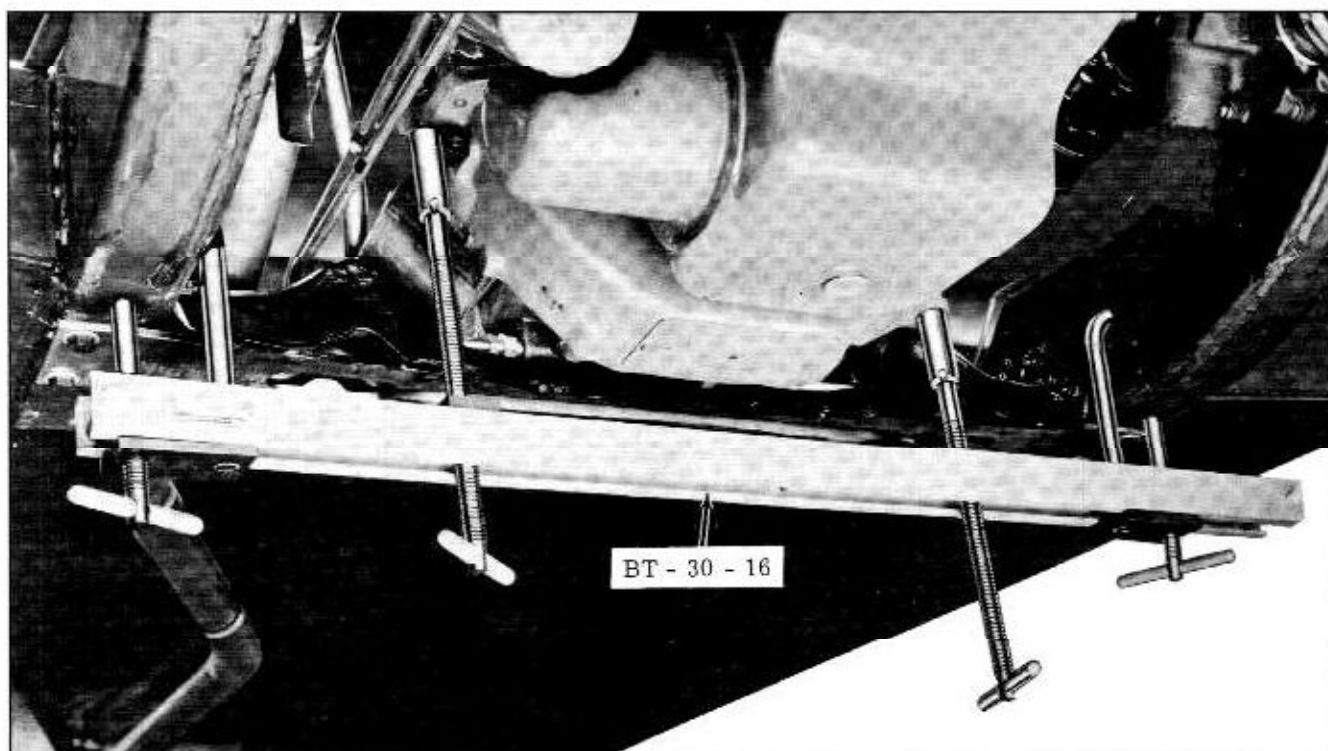

Fig. 8-55 Engine Support Bar
1. Position the Engine Support BT-30-16 as shown in Fig. 8-55.